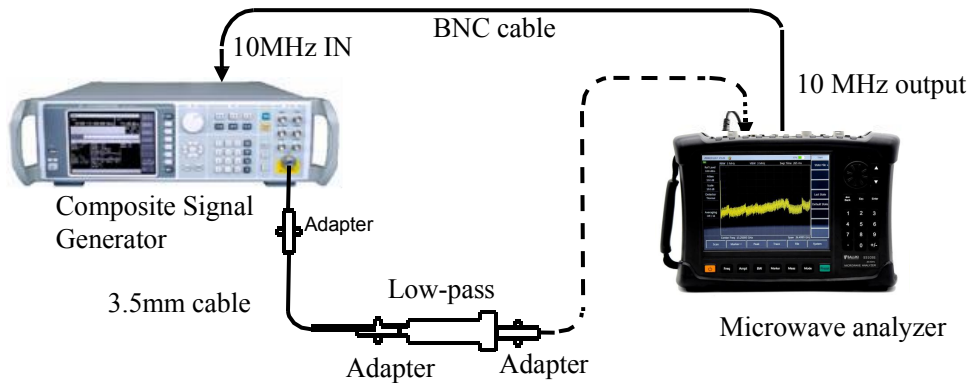

Figure 5-37 Block Diagram of the Second Harmonic Distortion Test
- 1) Connect the test instrument as shown in Figure 5-37. The microwave analyzer provides a 10MHz frequency reference for the composite signal generator and selects a 1GHz low-pass filter.
- 8) Connect the test instrument as shown in Figure 5-37, and use 6.8GHz low-pass filter.